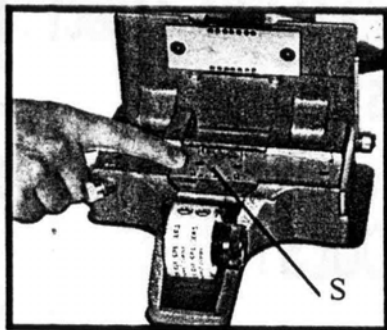
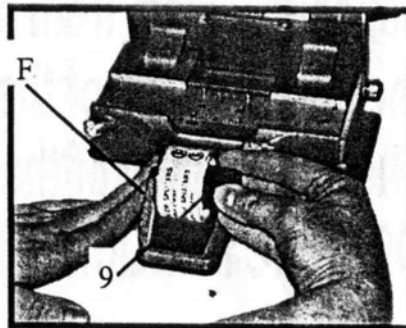

Fig.1
Fig.2
- 1) that the adhesive tape (S fig 1) , three or four superimposed layers, is applied to the matrix. It ensures that the little rectangles cut off by the perforators remain under the matrix and do not turn up sticking to the film.
- 2) that the adhesive tape is well centered in respect to the central pins (S fig 1) and pushed tight to flange (F fig 2). Tapes of different widths may be centered by removing or adding flanges, available in various thickness.
- 3) that the adhesive tape unroll tension is well regulated, turning knob (9 fig 2)